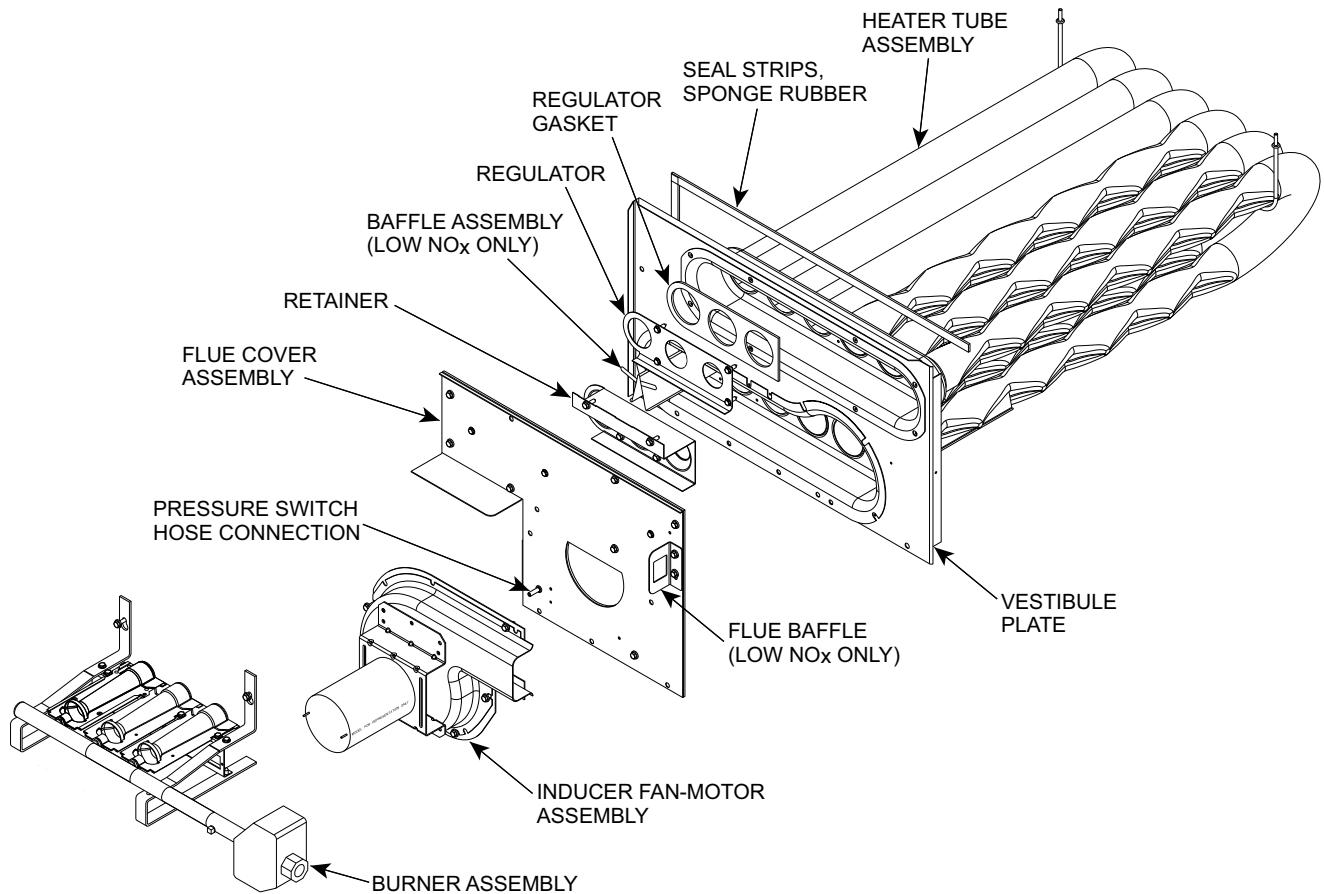

Fig. 50 — Heat Exchanger Assembly
1. Remove the combustion blower wheel and motor assembly according to directions in Combustion-Air Blower section. See Fig. 50.
2. Remove the seven screws attaching the induced-draft motor housing to the vestibule plate. (See Fig. 50.)
9. Remove the two screws attaching the burner rack to the vestibule plate (see Fig. 50).
10. Remove the pressure switch hose from the connection on the flue cover assembly (see Fig. 50).
14. Separate the following from the heat exchanger: inducer fan-motor assembly, flue cover assembly, retainer, regulator, regulator gasket, and if a Low NO_x unit, also remove the baffle assembly. See Fig. 50.